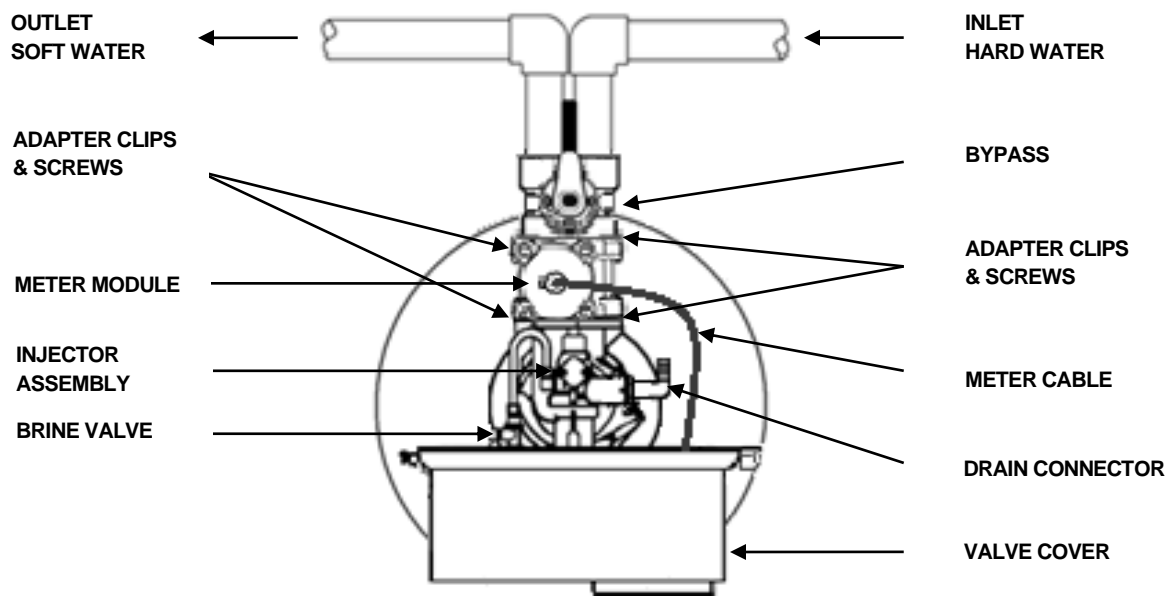

FIGURE 2: Top View of FSM Series Mechanical Metered Control Valve with Bypass
STEP 2: Use clips and screws provided and attach bypass valve to the inlet/outlet of the control valve. See figure 2 below.